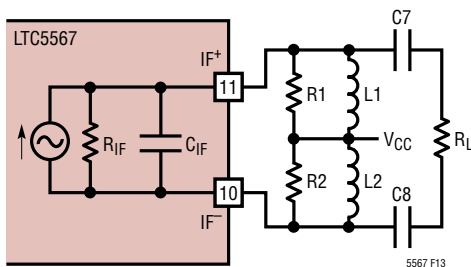

Figure 13. IF Output Circuit for Highpass Matching Element Value Calculations
Referring to the small-signal output network schematic in Figure 13, the reactive matching element values (L1, L2, C7 and C8) are calculated using the following equations. The source resistance (RS) is the parallel combination of external resistors R1 + R2 and the internal IF resistance, RIF taken from Table 4. The differential load resistance (RL) is typically 200Ω, but can be less. CIF, the IF output capacitance, is taken from Table 4. Choosing RS in the 380Ω to 450Ω range will yield power conversion gains around 2dB.